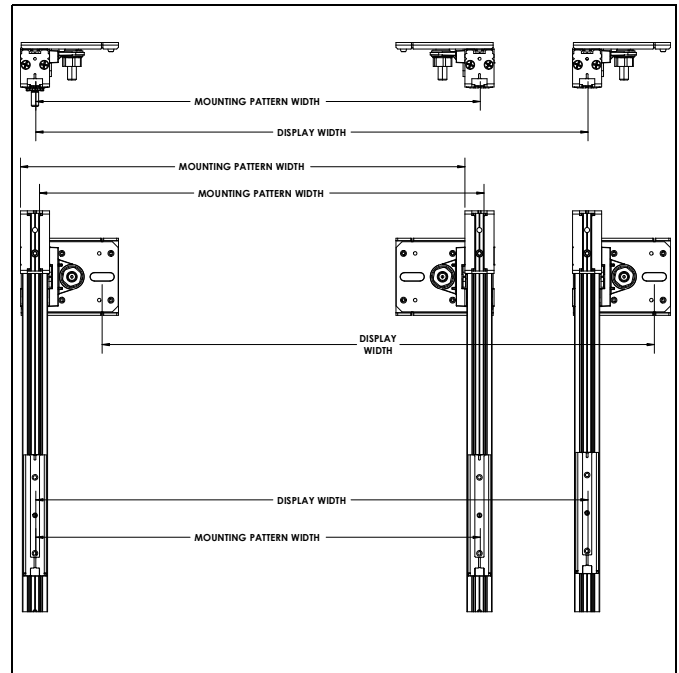
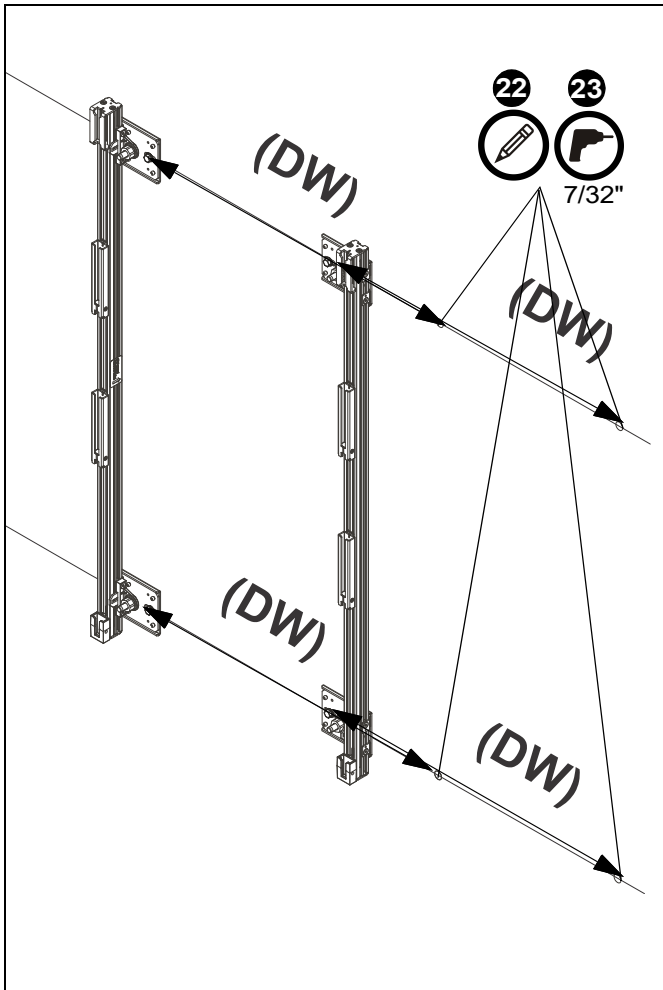

Figure 8
Figure 10
- Use a tape measure to ensure the uprights (A and B) are mounted the proper distance apart from each other based on mounting pattern width (MPW). (See Figure 8)
22. Measure one display width (DW) from mounting holes in uprights already installed to mark holes for next set of uprights (A and B). (See Figure 8) and (See Figure 10)
23. Drill 7/32" mounting holes at marked locations. (See Figure 10)